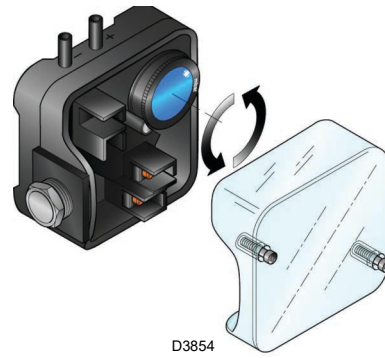

Fig. 34
- Adjust the air pressure switch (Fig. 34) to the start of the scale.
Adjust the air pressure switch after performing all other burner adjustments with the air pressure switch set to the start of the scale (Fig. 34).